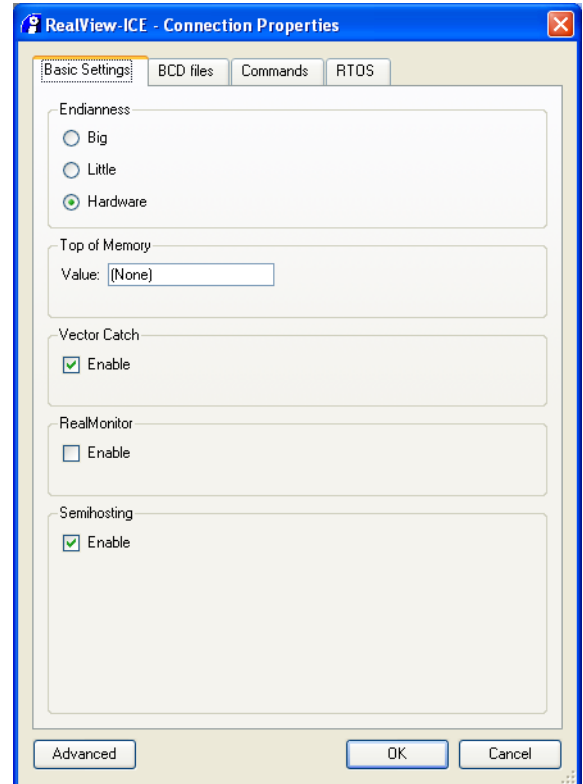

Figure 3-2 Connection Properties dialog box
3. Select **Properties...** from the context menu to open the Connection Properties dialog box. Figure 3-2 shows an example: